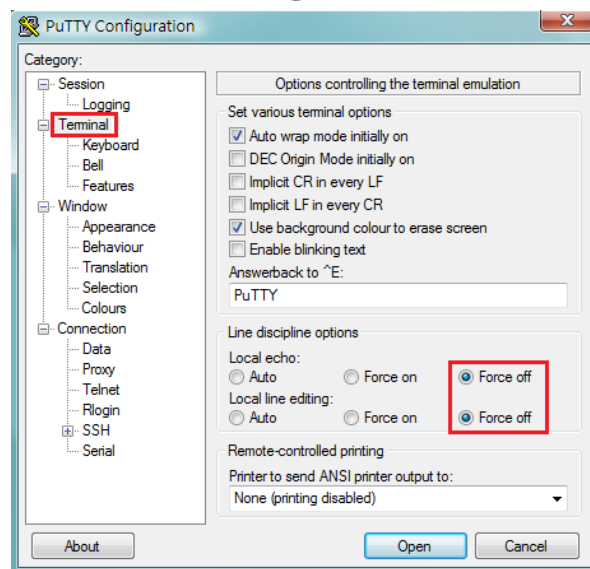

Figure 5. The PuTTY Configuration window.
*Note: If user uses PuTTY to configure SSH access, please configure Line discipline of Terminal as “Force off”, as shown in Figure 5.*